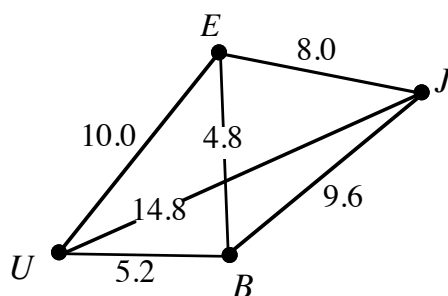
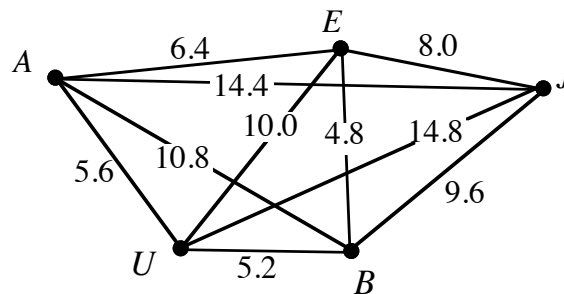

Figure 1: Graph of four locations
Figure 2: Graph of five locations
In this exploration, your job is to find the shortest possible route to the three firms. You must start at the building site, visit each firm, then return to the site. A **weighted graph** of the four locations is shown in Figure 1. (Recall that in a weighted graph, each edge is assigned a numerical value). In this graph, B represents the building site, U represents United Drywall, E represents Empire Plumbing, and J represents J&C Hardware. The distances given are in kilometers.
- Using the graph in Figure 1, determine one route that could be used to pick up all the materials.
- b. Recall that a **Hamiltonian circuit** is a closed path that starts at one vertex, visits every other vertex in a graph exactly once, and returns to the starting vertex. Determine the total number of Hamiltonian circuits possible in Figure 1.
- a. A **complete graph** is a graph in which each pair of vertices is connected by exactly one edge. Is the graph in Figure 1 a complete graph? Explain your response
Another local firm, AAA Lumber, also has agreed to donate materials to the building project. Now you must add another destination to your route. Figure 2 shows a complete graph of the four locations from Exploration 1, along with AAA Lumber, represented by vertex A. As in Figure 1, distances are given in kilometers.
- Determine the number of Hamiltonian circuits possible for the graph in Figure 2.
- Starting at the building site (vertex B), use the nearest neighbor algorithm to find a Hamiltonian circuit for the graph in Figure 2.
1. Describe how to use the cheapest link algorithm to determine a route among the five locations described in Figure 2.